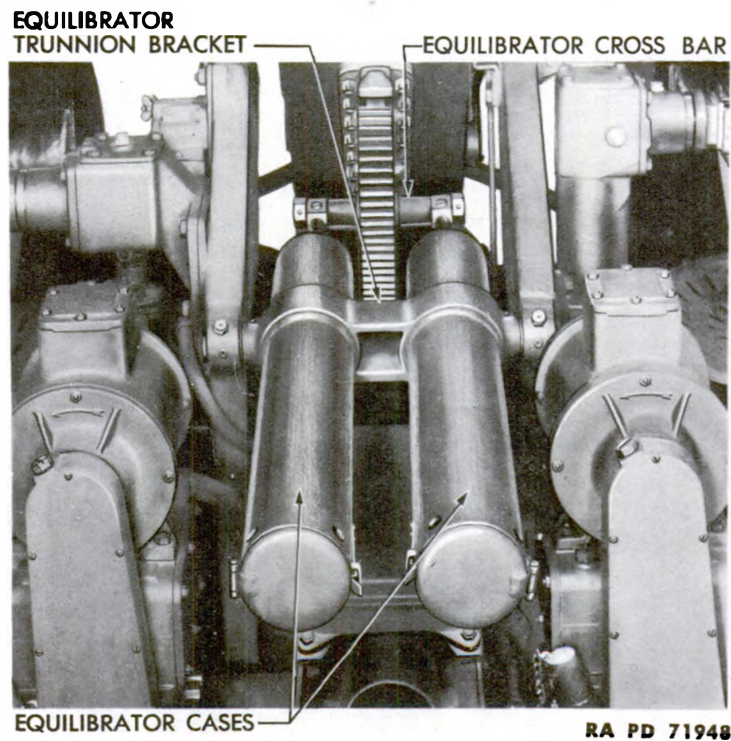

Figure 49 – Equilibrators
a. Two spring type equilibrators (fig. 49), operating as a unit, are provided to neutralize the unbalanced weight of the weapon and reduce the effort required to elevate it. The assembly is located under the gun and between the top carriage frames.